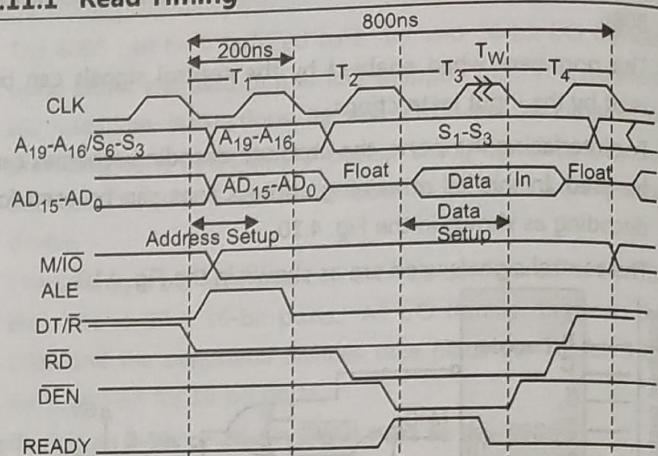

Fig. 4.14 : Bus timing for a read operation
- Each bus cycle consists of 4 clock cycles. Thus for 8086 running at 5MHz it would take 800ns for a complete bus cycle. Each read or write operation takes 1 bus cycle as shown in Fig. 4.14.